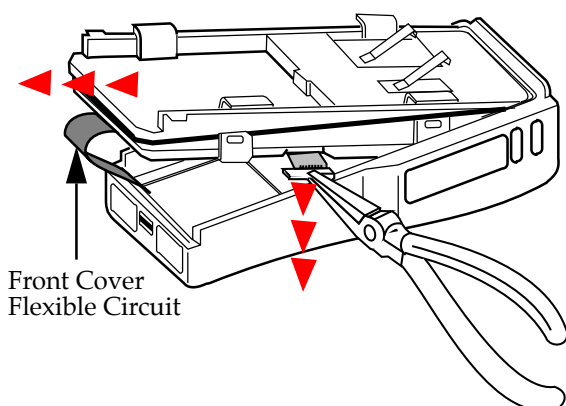

Figure 1-4. Remove Ribbon Cable Connector
5. Remove the ribbon cable connector from the main board using pliers or a flat blade screwdriver (Figure 1-4).
6. Pull the chassis out and away from the housing as shown by the arrow (Figure 1-4) and beware of the front cover flexible circuit.